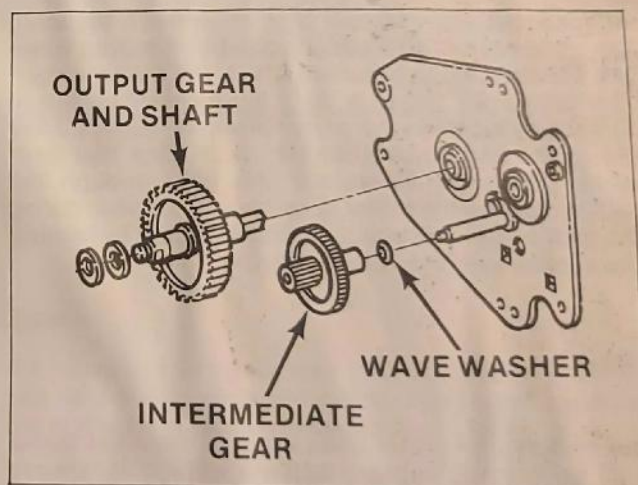

Fig. 13. Gearbox Assembly
4. In gearbox, install wave washer and intermediate gear first (fig. 13). Then install output gear and shaft with cam at least 90° away from park switch. Lubricate gears with Multifak EP-1, or equivalent.